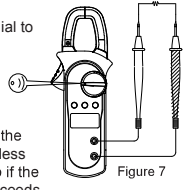

Figure 7
5. Continuity Test ($\rightarrow \rightarrow$) (See Figure 7)